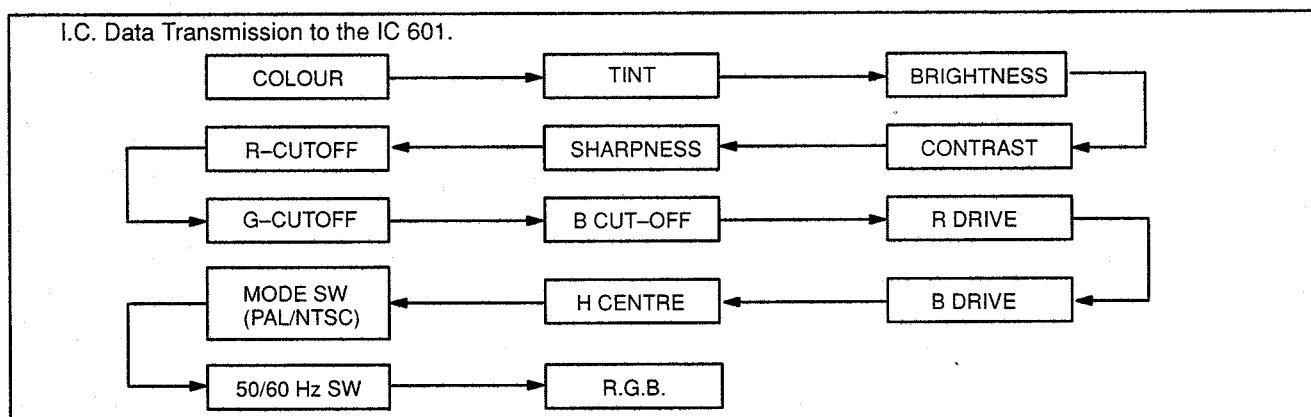

Fig. 4
1. Various control functions are possible via the I2C bus from the microcomputer IC1101 to VCJ IC601, as shown in Fig. 4.